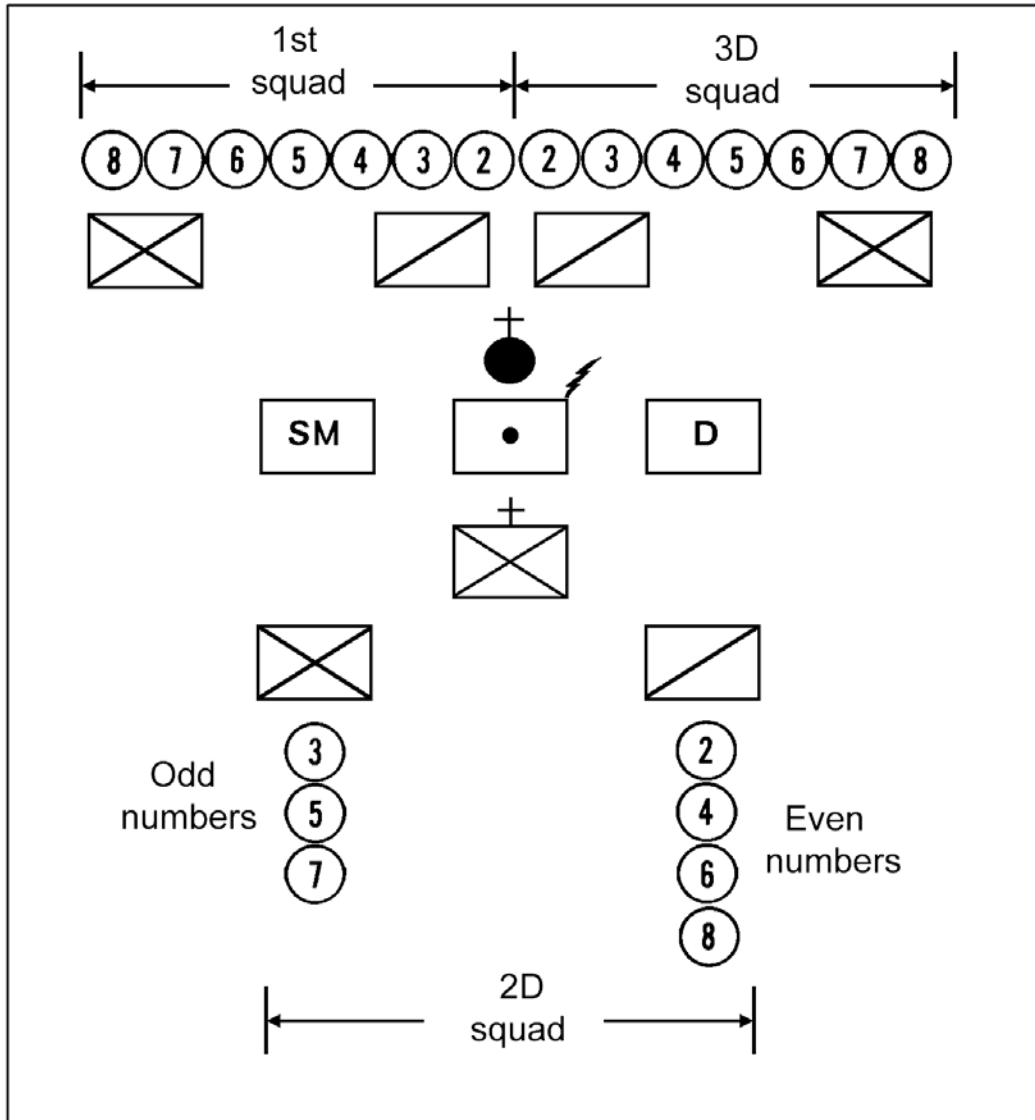

Figure 191-379-5400-2
- a. Form the platoon line with one squad in general support in a column of twos (Figure 191-379-5400-2).